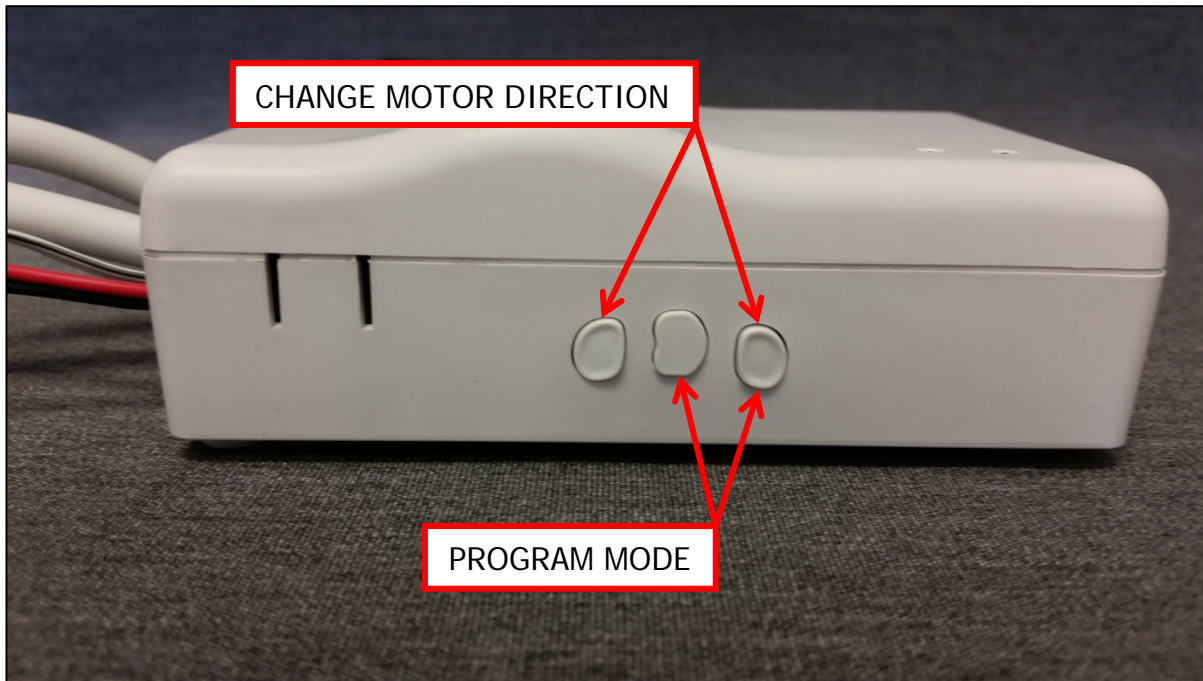

Fig.3
- b. Press and hold the **MIDDLE** and **RIGHT** buttons on the GC274 (Fig 3) for about 5 seconds until the Green LED starts to flash.